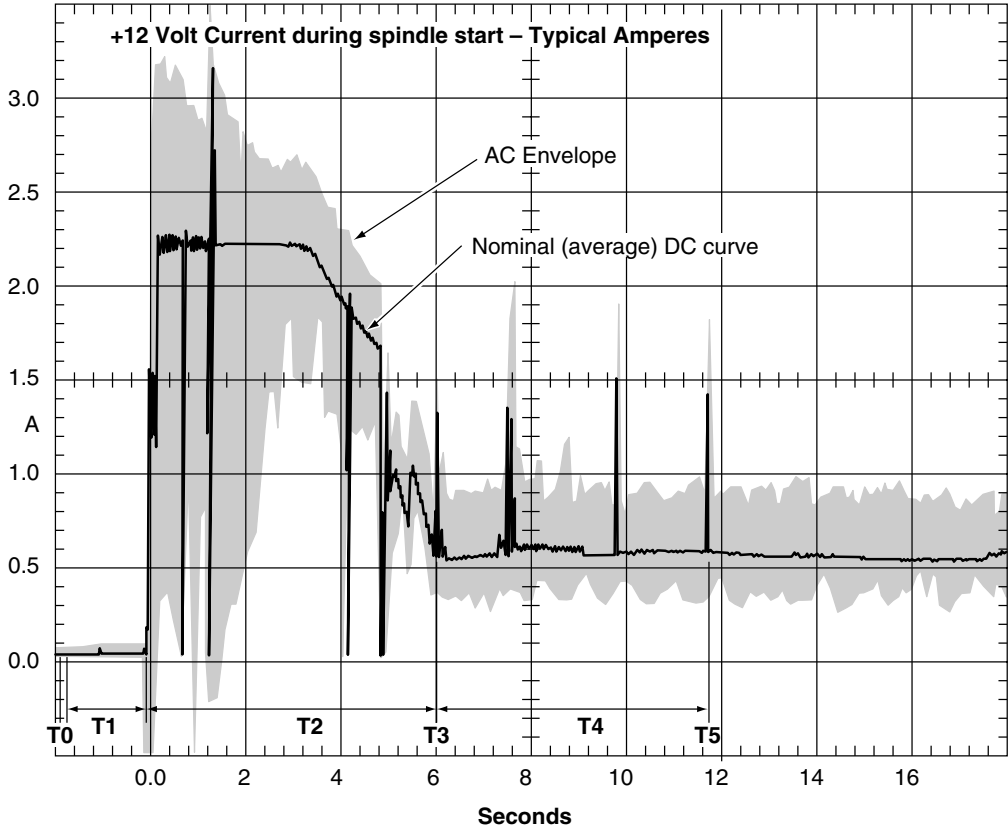

Figure 3. Typical ST336705 drive +12 V current profile
- [3] See +12 V current profile in Figure 3.
Figure 3 identifies the drive +12 V current profile. The current during the various times is as shown: